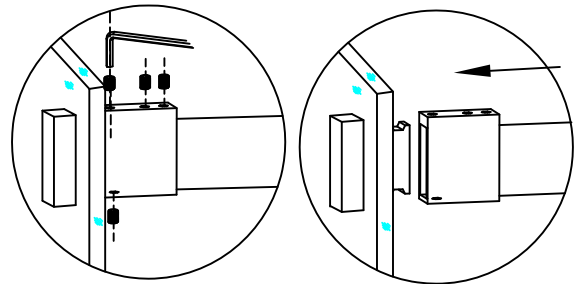

Fig. 20
20. Position the top rail / fixed glass assembly into place in your shower opening. Next connect Rail Mount (23) to stainless steel fitting by sliding rail mount over stainless steel fitting and tightening set screws in rail mount to secure to Top Rail (2). See Fig. 20 for details.